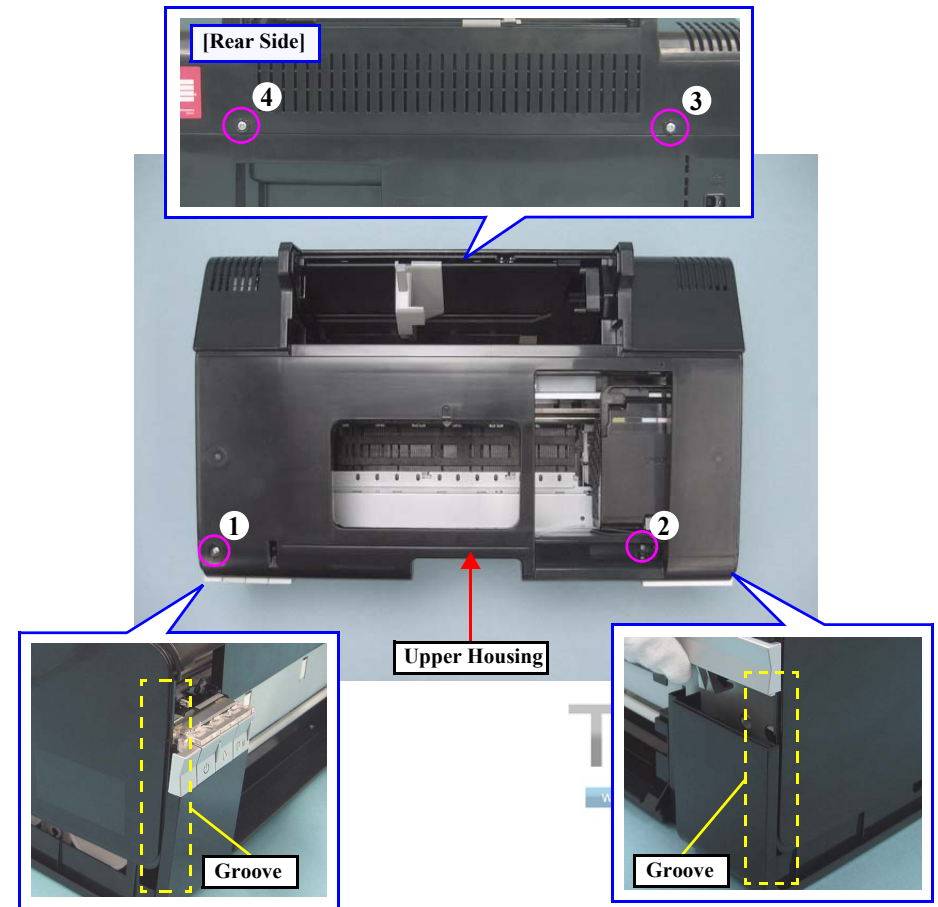

Figure 4-14. Removing the Upper Housing
- Tighten the screws in the order given in Fig.4-14 (p.62).
- Match the ribs of the Upper Housing shown in Fig.4-14 (p.62) with the grooves of the Lower Housing.